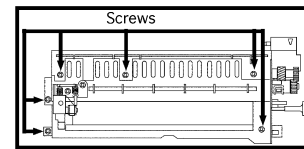

Figure 3
3. Place cartridge on its top and remove 6 screws. Detach securing clip and separate cartridge (Figs. 3 & 4).